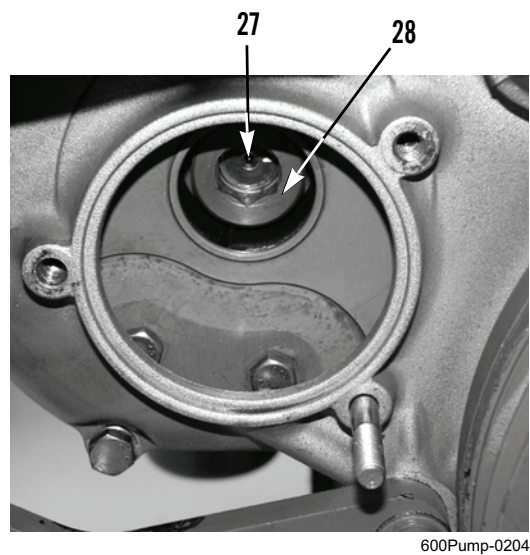

Figure 30. Tightening Tensioning Nut.
5. Install tensioning nut (Figure 30, Item 28) on fuel injection pump shaft (Figure 30, Item 27). Hold crankshaft with retainer tool and tighten tensioning nut to 130 lb-ft (176 Nm).